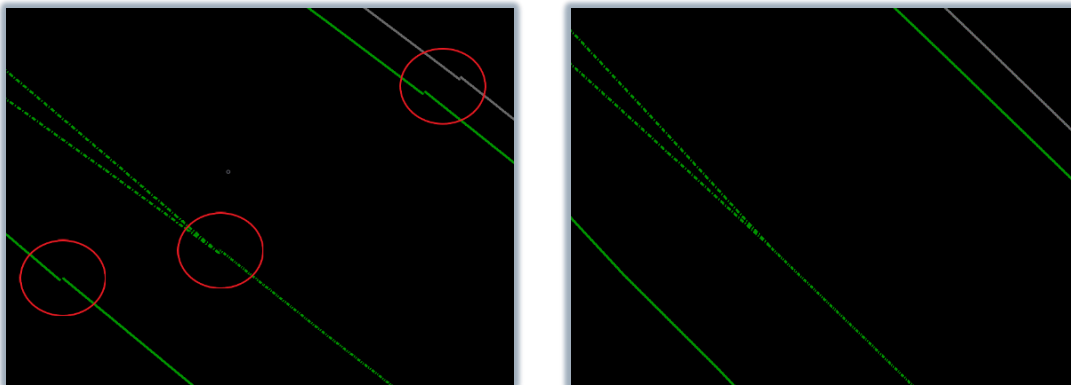

Figure 7 – Before and after trimming 3D model breaklines where a corridor and linear template intersect
- iii. Check intersections, driveways, or areas where complex or multiple models were used. See Figure 7.